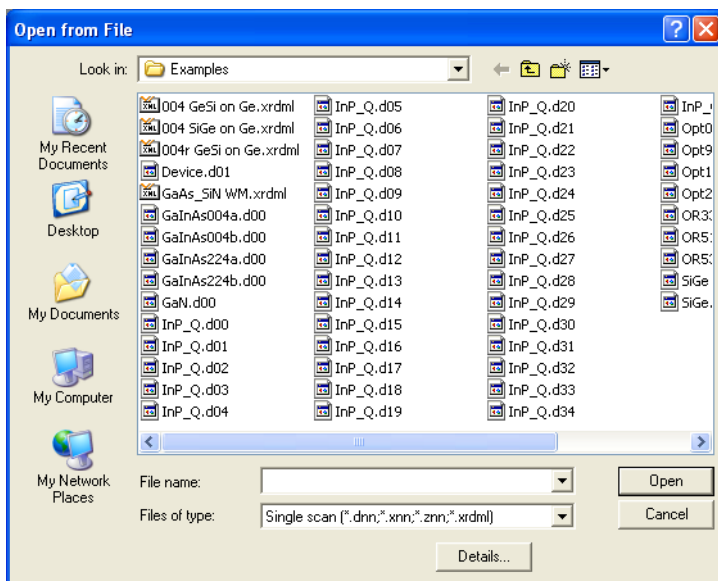

Figure 2-4: The Open from File Window
- Select *File - Open*, the window shown in Figure 2-4 will appear.